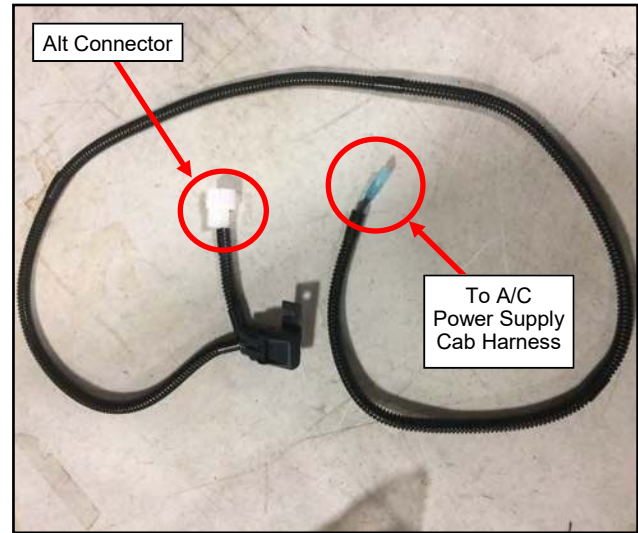

Fig. 4.5a (Connect Alternator Harness)
- 4.5 Connect 2-pin alternator end of Alternator Harness to the Vehicle's Alternator Connector found in Step 2.12. Next, connect female push-on terminal to A/C Power Supply Cab Harness' male push-on terminal. See figures 4.5a and 4.5b.